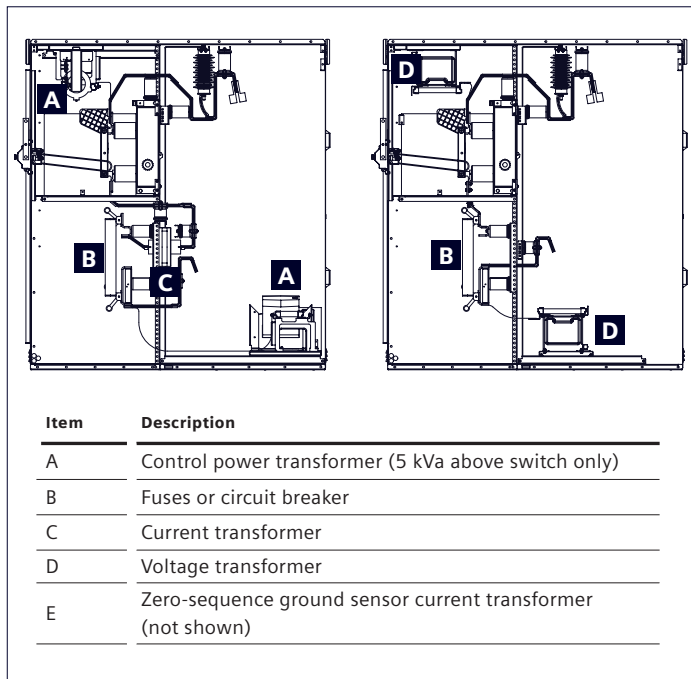

Figure 27: Typical VT, CPT and CT configurations
- One, two or three VTs with primary fuses may be located in a section as shown in Figure 27: Typical VT, CPT and CT configurations.
- As shown in Figure 27: Typical VT, CPT and CT configurations; one single-phase CPT rated 5 kVA can be mounted above the switch. All CPT rated greater than 5 kVA will be mounted in the rear compartment. All CPTs provided with the associated primary fuses.
- Up to one (standard accuracy) CT may be mounted around each primary insulator tube on either the line side or the load side of the primary fuses or circuit breaker as shown in Figure 27: Typical VT, CPT and CT configurations. This allows up to two CTs per phase to be furnished in a SIEBREAK switchgear section.